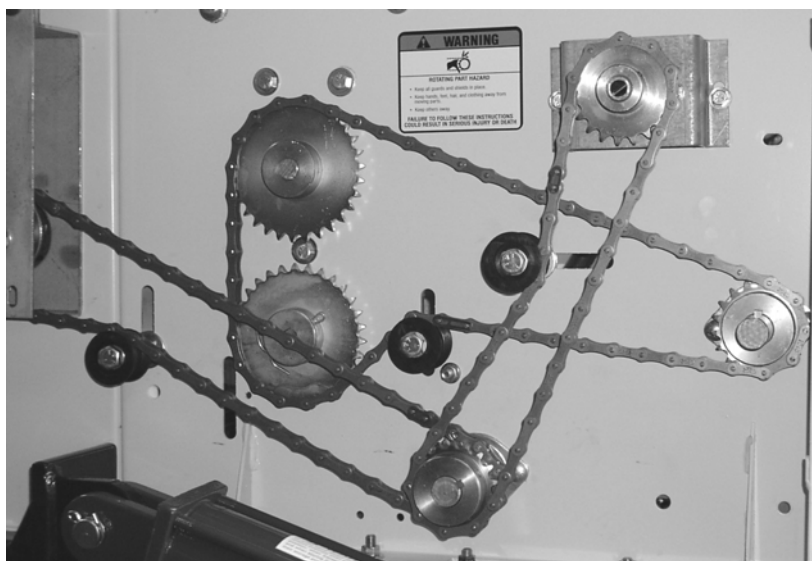

FIGURE 40-6
- 5) The idler for the fluffy seed box agitator and picker wheel **must be positioned on the slack side in such a way as to allow the 3/8" bolt holding the derailleur idler assembly** (part #15-7116A) **to be installed in the end plate** (part #103625) and still allow clearance for the chain. See **Figure 40-6** for chain and idler orientation.